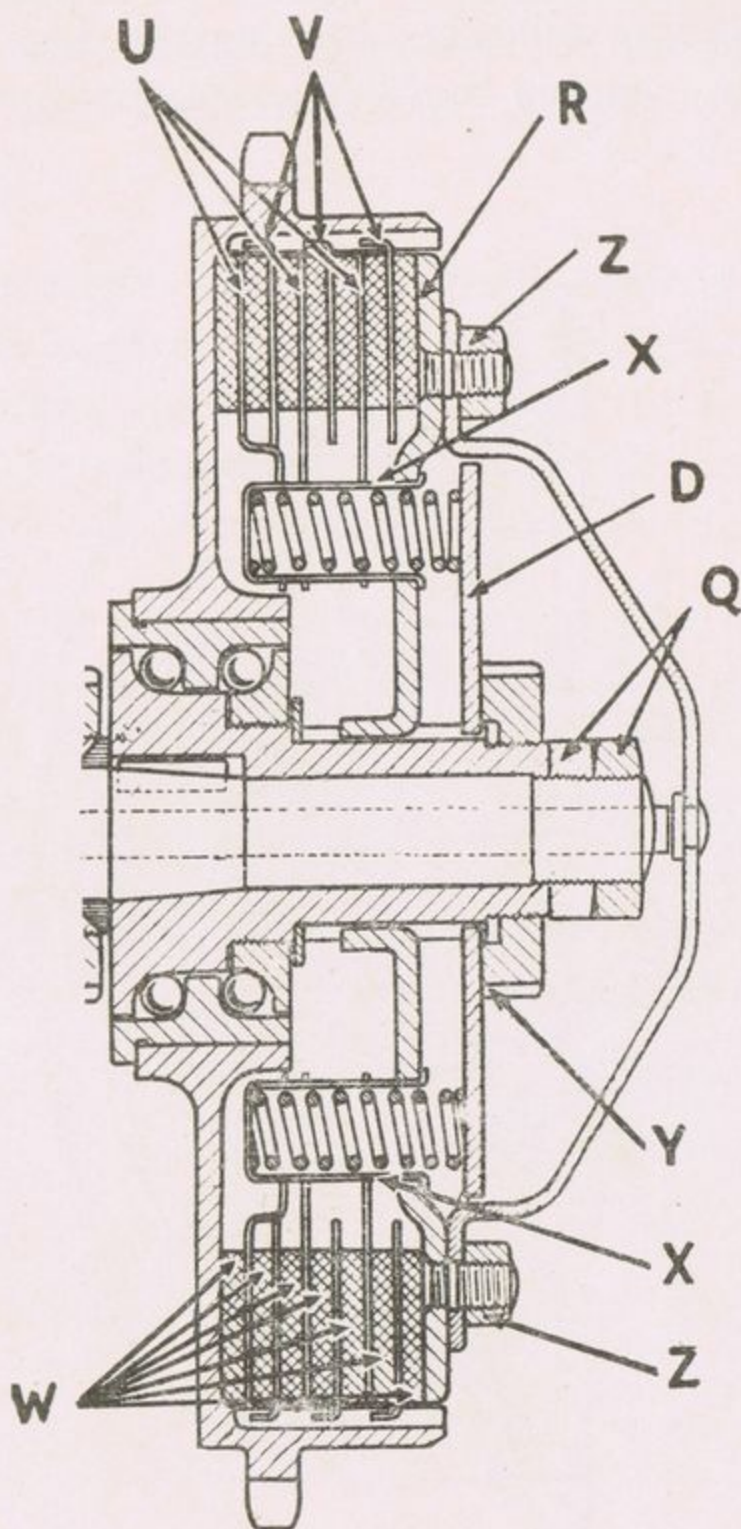

Fig. 17.
**Seven Plate Clutch** (Fig. 17). Inspection of the diagrams will show that the clutch operates in a similar manner to the above, except that when dismantling after taking off the conical cap, there are two locknuts on the mainshaft which must be removed, before releasing the central ring nut. To re-assemble, remove two of the engine timing case